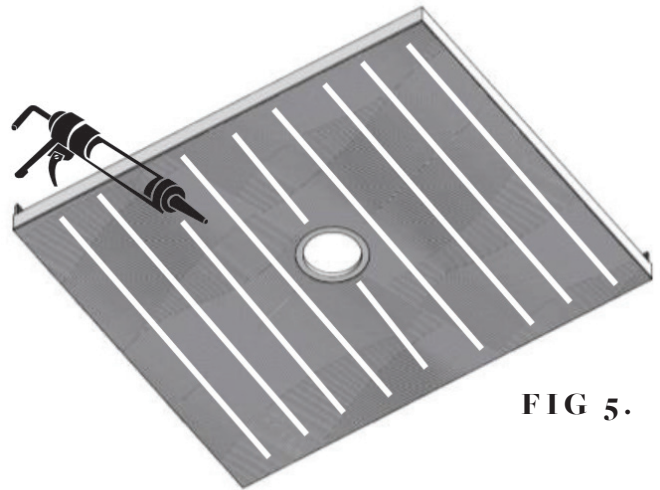

FIG 5.
- Apply adhesive in continuous parallel 8mm lines (FIG 5).
- Place top waste clamp into recess and down into waste body then fasten top clamp in place (FIG 5) by fixing screws. Screws need to be firm but not over-tight.